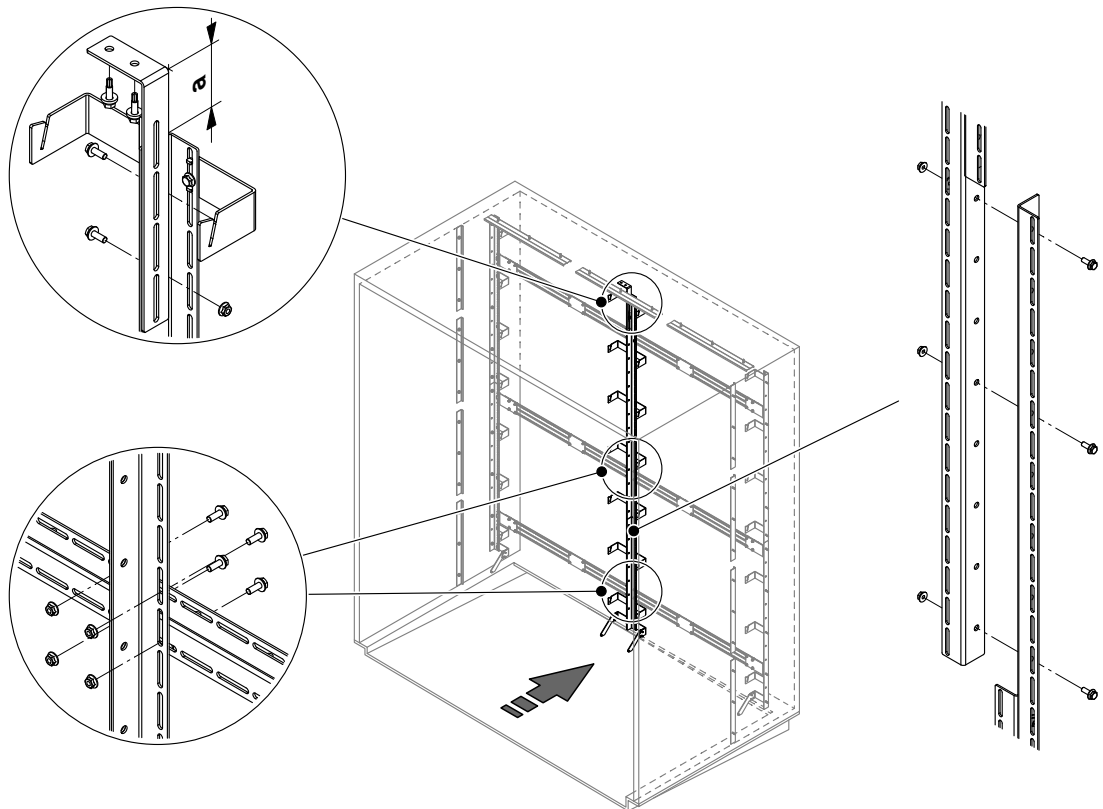

Abb. 8: Mounting the vertical support
- Fix angle bracket of the vertical support(s) with two self-tapping screws 6.3 x 25 mm to the duct ceiling (see detail top left in fig. 8).